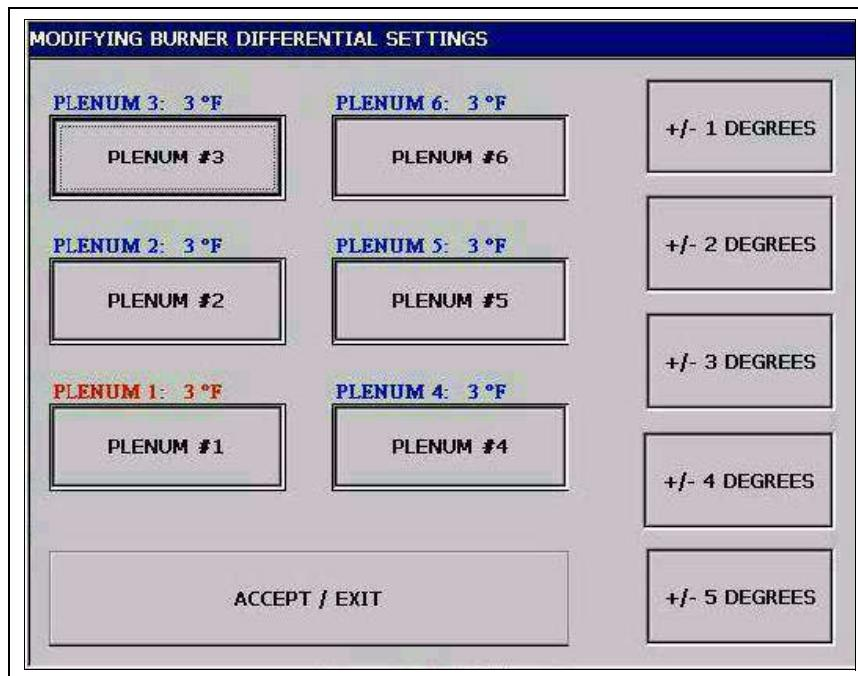

Figure 6K
2. **Differential:** Touching the Differential button will display the Modify Burner Differential Settings screen. (See Figure 6K.) Adjusting the burner differential settings allows the operator to keep the plenum temperature within a certain range. For example: If you have the temperature set point at 180° and you select ± 3° as the burner differential, then the burner will switch to low heat at 183° and back to high heat at 177°. To modify a burner differential setting first touch the Plenum button you wish to modify, then select one of the five differential setting button on the right side of the Modify Burner Differential Settings screen. Touch the Accept/Exit button to save settings and return to the Select Hardware Setup Parameter to Modify screen. **NOTE:** Tower dryer only have plenum #1.